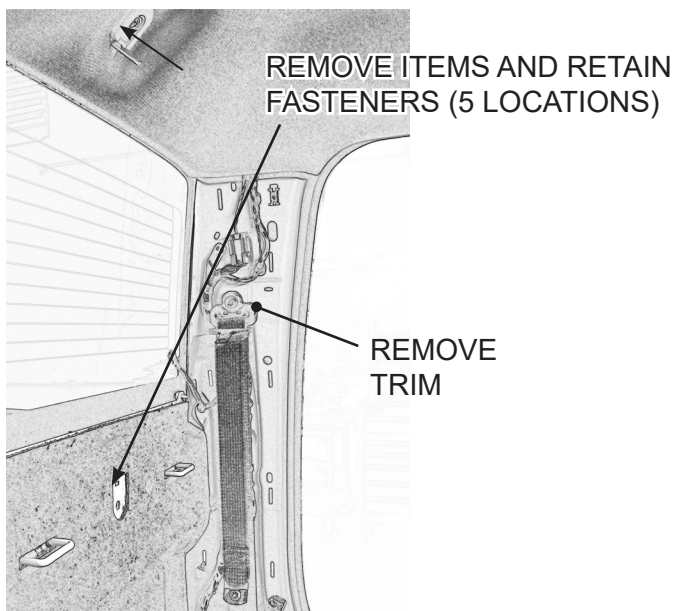

Fig. 7
- C. Remove and retain fasteners from plastic clip at headliner and cable loop hardware below back window. Five fasteners total. (Fig. 7)